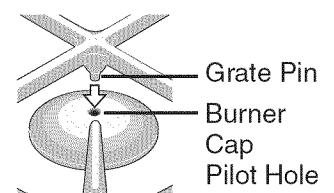

Figure 4
6. Unpack Burner Grates. NOTE: Do not force End Burner Grates down on cooktop. Be careful to line up the 2 Grate Pins located on each of the 2 End Burner Grates into the Pilot holes located on top of the Burner Caps (See Figure 4). Position Burner Grates on cooktop and check that all the Burner Grate legs lie on the glass surface.